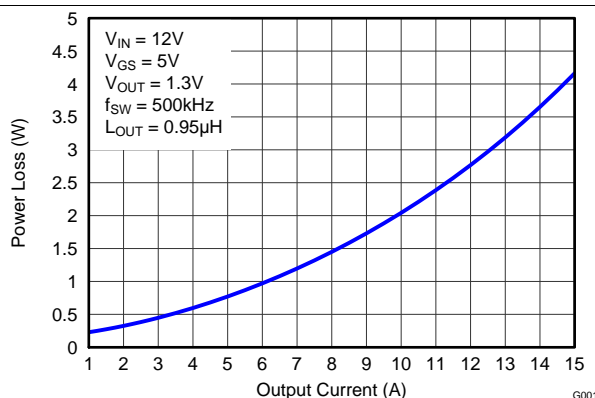
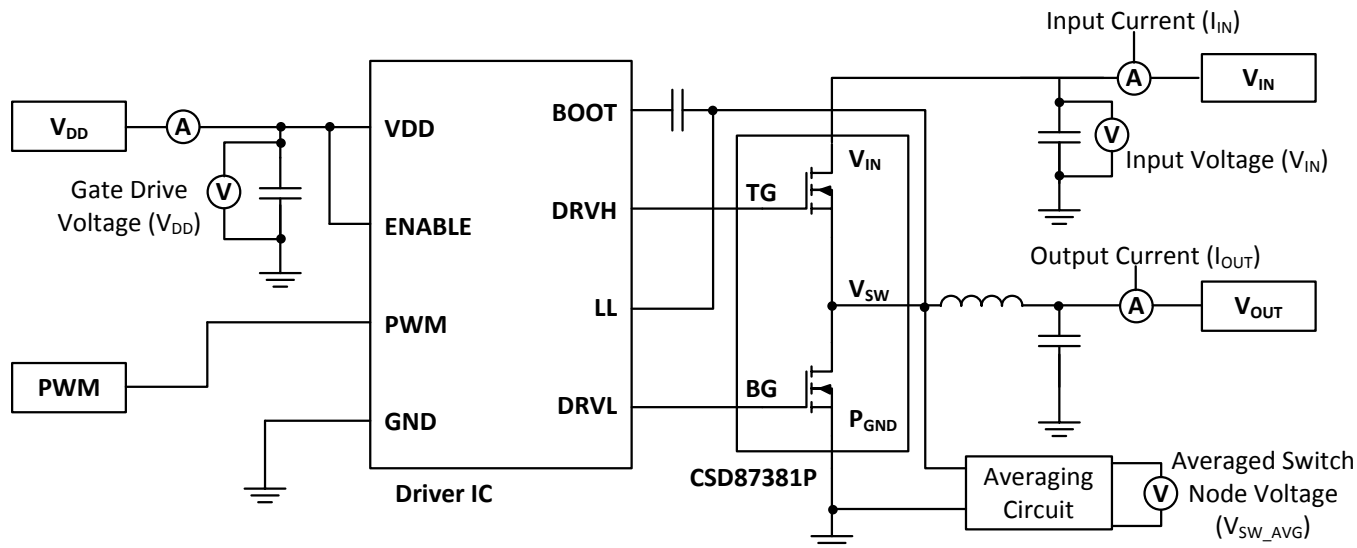

Figure 1. Power Loss vs Output Current
Figure 27. Typical Application
MOSFET-centric parameters such as $R_{DS(ON)}$ and Q_{gd} are needed to estimate the loss generated by the devices. In an effort to simplify the design process for engineers, TI has provided measured power loss performance curves. Figure 1 plots the power loss of the CSD87381P as a function of load current. This curve is measured by configuring and running the CSD87381P as it would be in the final application (see Figure 27). The measured power loss is the CSD87381P loss and consists of both input conversion loss and gate drive loss. Equation 1 is used to generate the power loss curve.
The power loss curve in Figure 1 is measured at the maximum recommended junction temperatures of 125°C under isothermal test conditions.
- Power Loss at 8 A = 1.44 W (Figure 1)